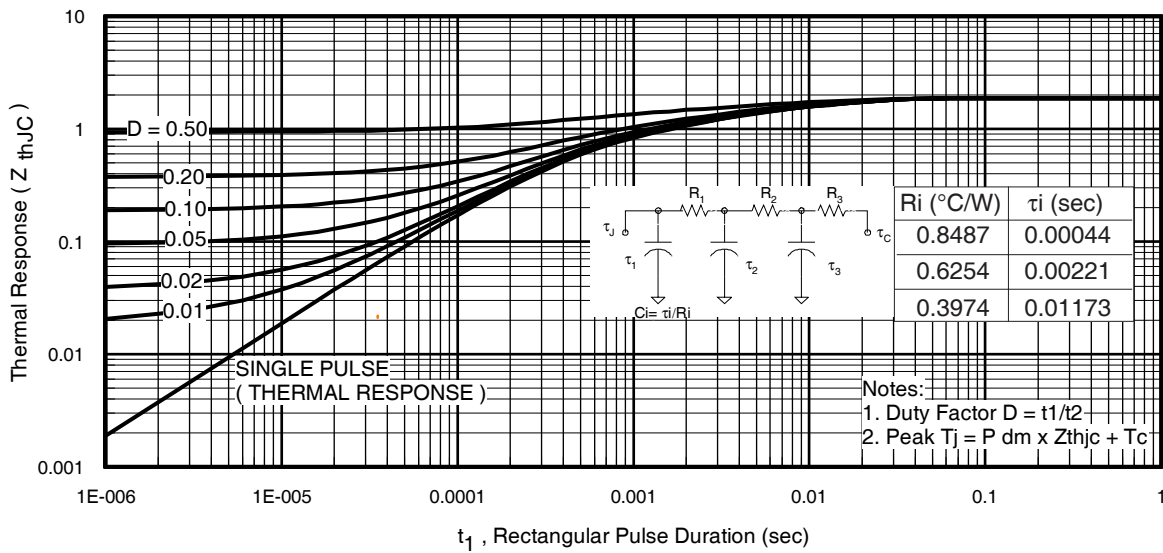
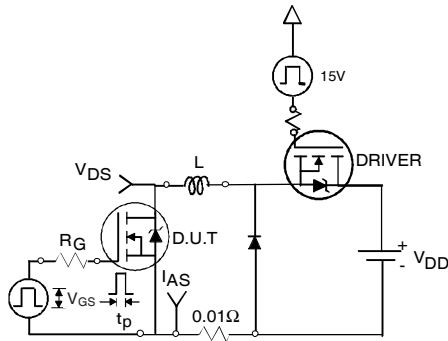

Fig 11. Maximum Effective Transient Thermal Impedance, Junction-to-Case
Fig 12a. Unclamped Inductive Test Circuit
| I_{AR} | Avalanche Current ① | See Fig. 12a, 12b, 15, 16 | A |
- ① Repetitive rating; pulse width limited by max. junction temperature. (See fig. 11).
- ② Limited by T_{Jmax}, starting T_J = 25°C, L = 0.18mH, R_G = 25Ω, I_{AS} = 31A, V_{GS} = 10V. Part not recommended for use above this value.
- ③ I_{SD} ≤ 31A, di/dt ≤ 840A/μs, V_{DD} ≤ V_{(BR)DSS}, T_J ≤ 175°C.
- ④ Pulse width ≤ 1.0ms; duty cycle ≤ 2%.
- ⑤ C_{oss eff.} is a fixed capacitance that gives the same charging time as C_{oss} while V_{DS} is rising from 0 to 80% V_{DSS}.
- ⑥ Limited by T_{Jmax}, see Fig.12a, 12b, 15, 16 for typical repetitive avalanche performance.
- ⑦ This value determined from sample failure population. 100% tested to this value in production.
- ⑧ This is applied to D²Pak, when mounted on 1" square PCB (FR-4 or G-10 Material). For recommended footprint and soldering techniques refer to application note #AN-994.
- ⑨ R_θ is rated at T_J of approximately 90°C.
3. Equation below based on circuit and waveforms shown in Figures 12a, 12b.
$Z_{thJC}(D, t_{av})$ = Transient thermal resistance, see figure 11)